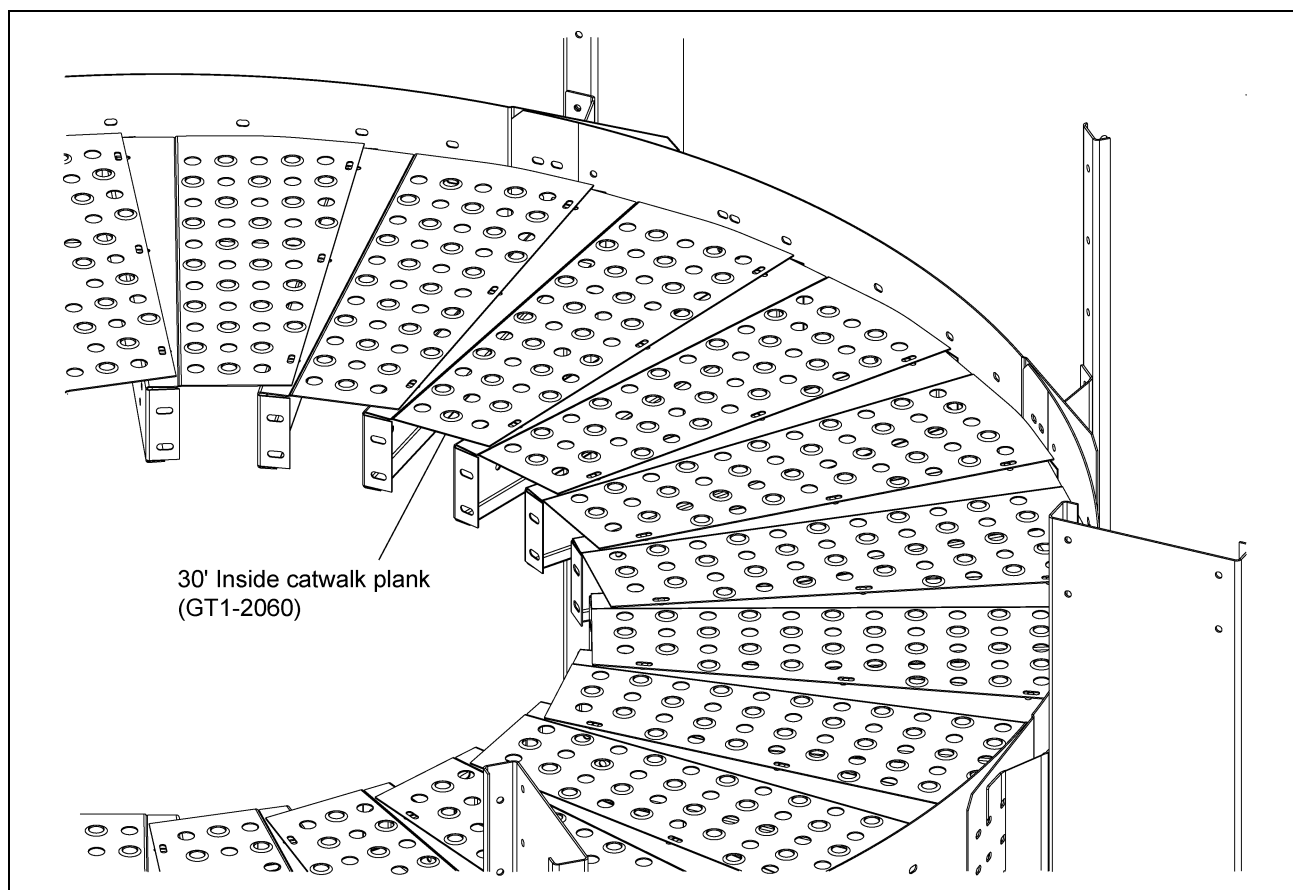

Figure 5G
3. Install all the planks (GT1-2060) continuously around the dryer. (See Figure 5G.)